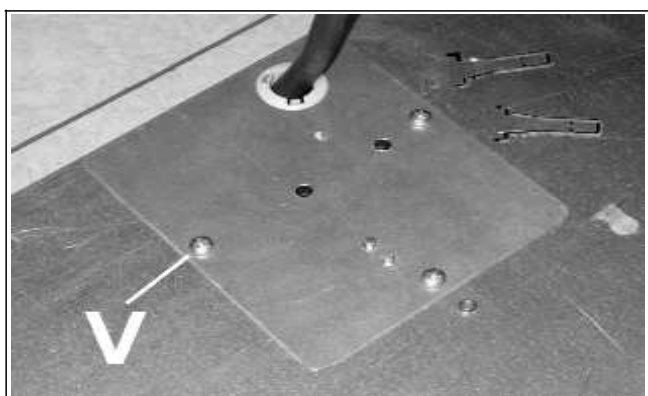

FIG. 11
- a)** Take off the panel stuck by screws "V" (see fig. 11).
f) Replace the panel in its seat and hold up with the pertinent screws "V" (see fig. 11).